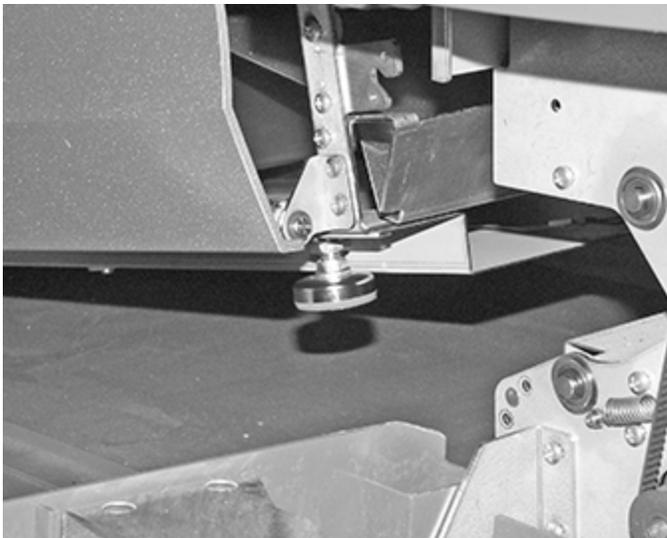

Figure 12 Front Leveling Foot
9. Turn the front (upstream) leveling feet all the way in (fully counter-clockwise). See Figure 12.
13. Lower the front leveling feet so they contact the table. Then tighten the jam nuts. Refer to Figure 12.